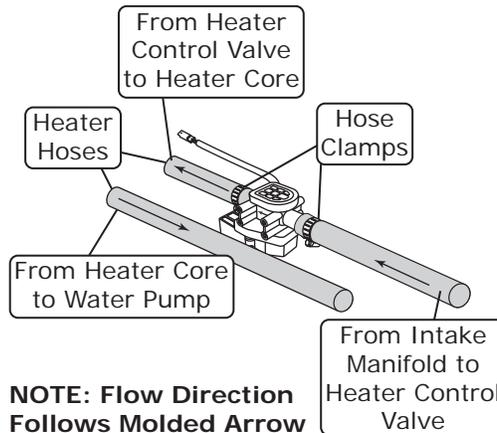

Figure 1
1. Locate the evaporator drain on the bottom of the evaporator case (See Figure 1, below).
2. In line with the drain, lightly make a mark on the firewall. Measure 1 1/4" down and drill a 5/8" hole through the firewall (See Figure 1, below).
2. Cut an 8" piece of 5/8" heater hose and attach it to the heater control valve. Secure it with a hose clamp. Install the other side of the 8" heater hose onto the lower heater line at the firewall. Secure it with a hose clamp. Route one more piece of heater hose from the intake manifold (pressure side) to the heater control valve, and secure both ends with hose clamps (See Photos 1 and 3, and Figure 1, below). **NOTE: Ensure proper flow direction through the heater control valve (the flow direction follows the molded arrow on the valve).**